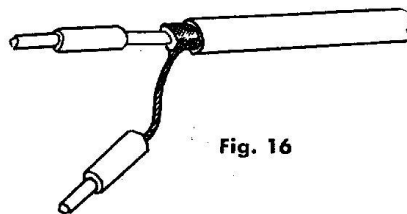

Fig. 16
4. () Fig. 16. Complete end B of the shielded lead by soldering pin tips to the inner conductor and to the flat wire braid.